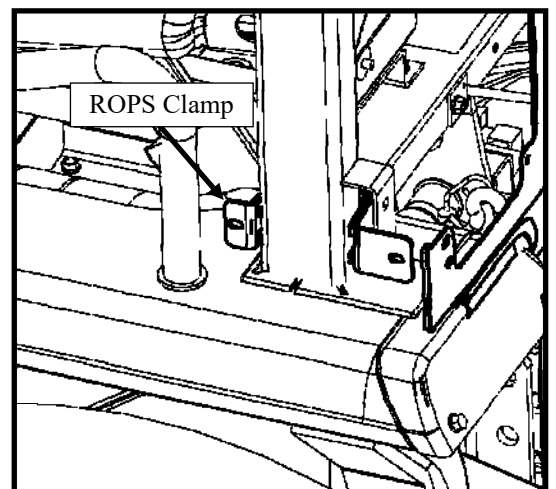

Figure 5.1: ROPS Clamp Set In Place
- 5.1 Set a ROPS clamp in place on the left side ROPS tube with the larger flange towards the rear as shown in Figure 5.1.